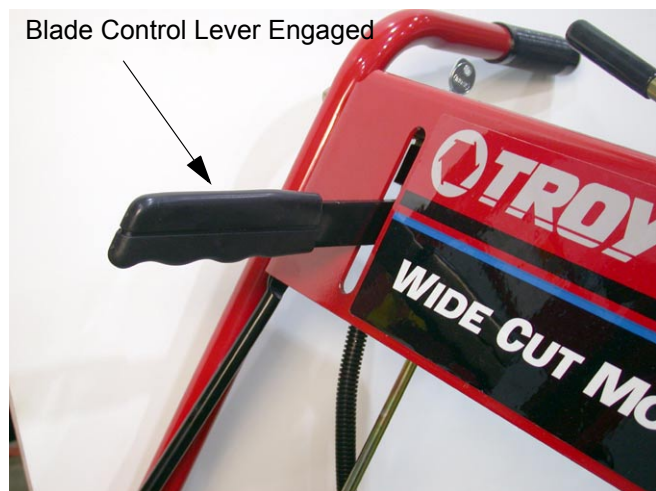

Figure 20
- 6.3. Engage the blade control lever to move the brake pad away from the drive pulley. See Figure 20.